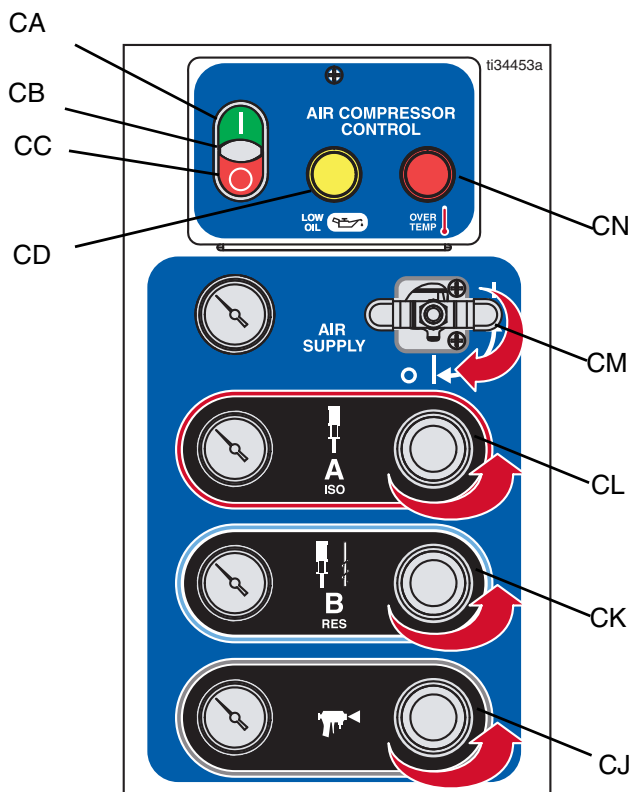

FIG. 24: Air Compressor Control Panel
- a. Close the main air supply valve (CM) on the air control panel. See FIG. 24.